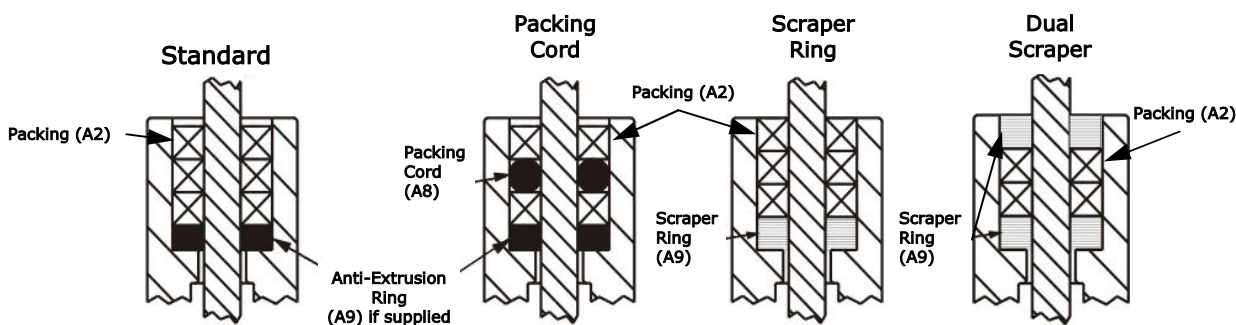

Figure 3—Packing Detail
- c. Assemble and pack the last row of scraper ring (A2). See Figure 3: